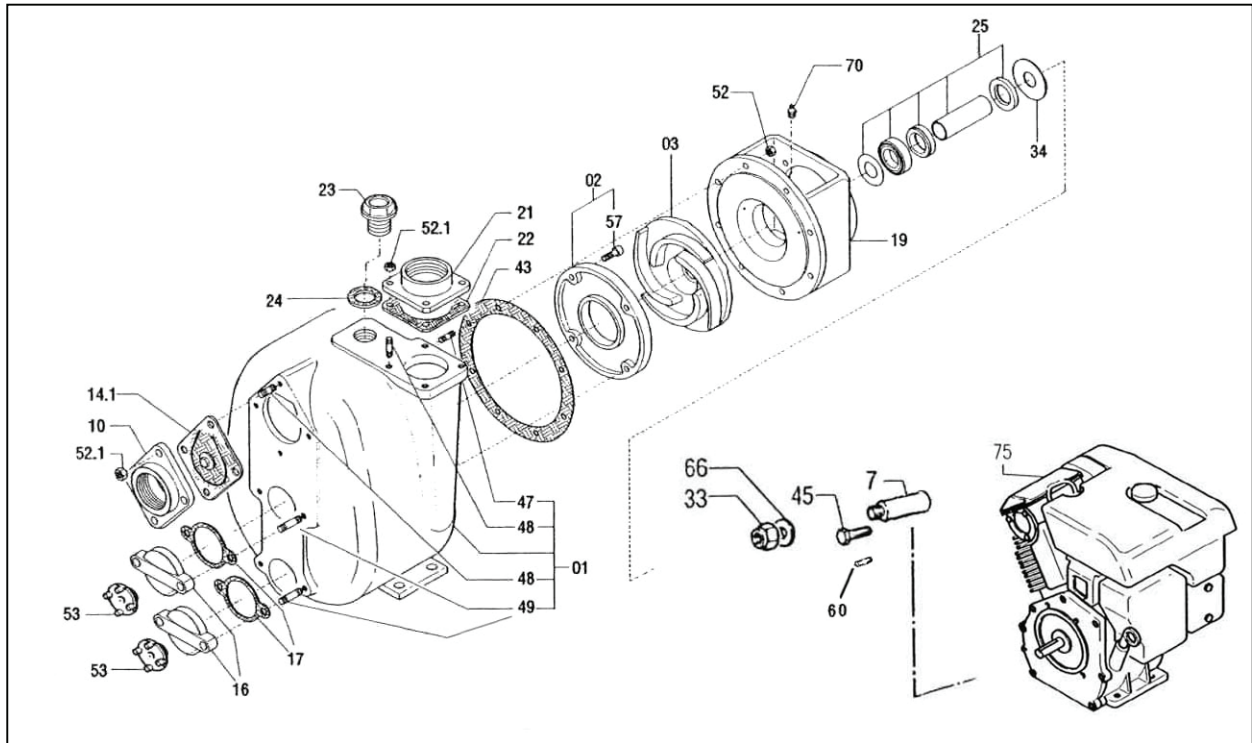

Figure 45
9.3.5 Impeller Assembly (figure 45, #03)
1. Drain the casing (figure 45, #01) through the drain plug (figure 45, #16).
2. Unscrew the nuts (figure 45, #52) and remove the pump casing (figure 45, #01), taking care not to damage the casing gasket (figure 45, #43).
3. Block the impeller (figure 45, #03) and unscrew the self-locking impeller nut (figure 45, #33).
4. Remove the impeller (figure 45, #03) and replace it with a new one.
5. If necessary, replace the casing gasket (figure 45, #45).
6. Check the distance between the impeller (figure 45, #03) and the casing (figure 45, #01) as described in Impeller Adjustment Section 9.5.